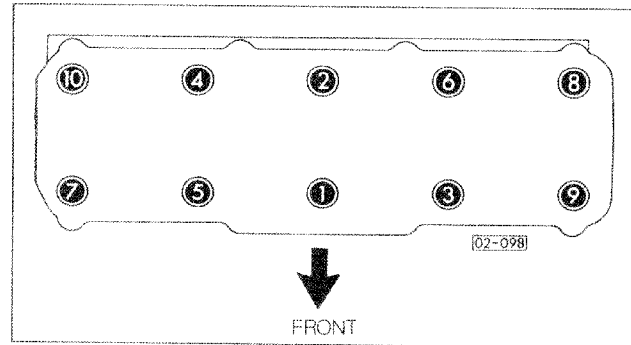

Fig. 4-18. Cylinder head bolt tightening sequence. 8-valve engine shown. 16-valve sequence is the same.
5. Torque the bolts to 40 Nm (30 ft. lb.), in the sequence shown in Fig. 4-18. Repeat the sequence, torquing the bolts to 60 Nm (43 ft. lb.). Repeat the sequence a third time, tightening each bolt an additional 1/2 turn. Alternatively, this last step may be done as two 1/4 turns.